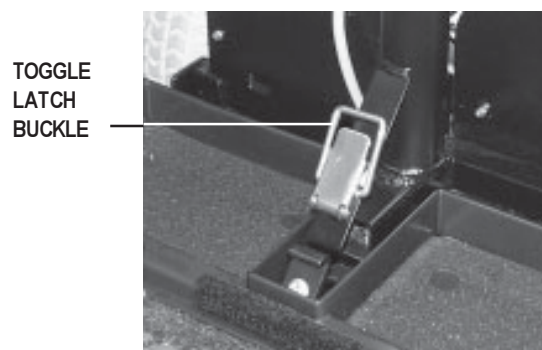

Figure 16. Toggle Latch-Unlatched
2. Position the toggle latch buckle over the top of the toggle latch. See figure 16.